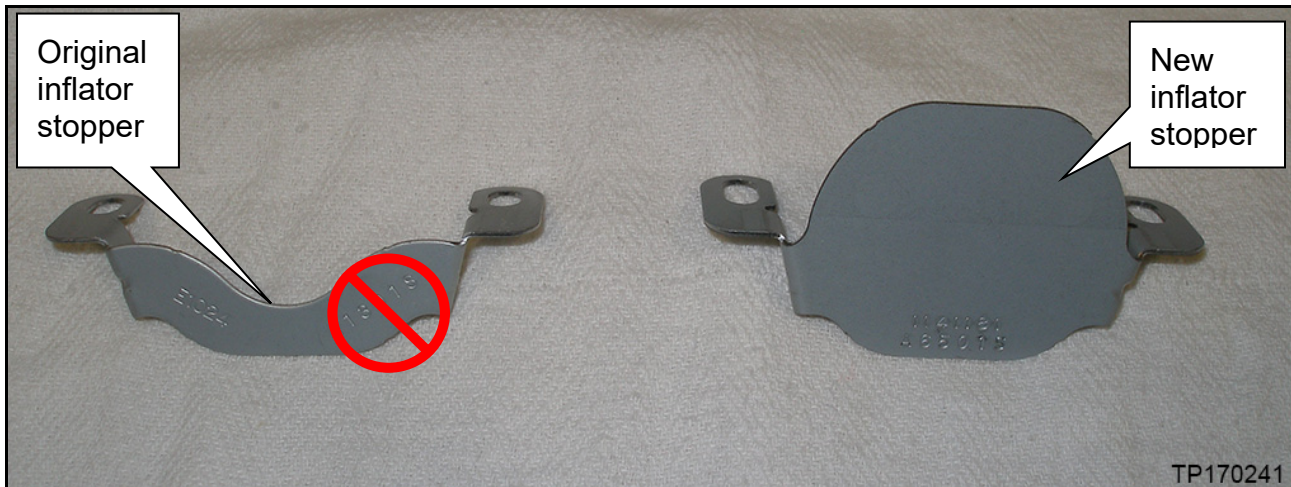

Figure 23a
**NOTE:** Refer to Figure 23a to ensure the new inflator stopper is used.